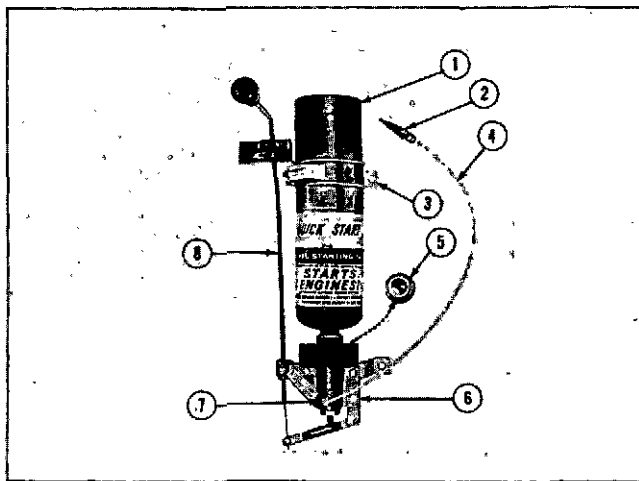

Fig. 10-2-3, V11011. Manual valve with fuel cylinder mounted
The Turner "Quick Start" cold starting aid, approved for optional use on Cummins Engines, has been released based upon starting aid capabilities to -25°F [-31.6°C]. The valve meters and injects 5cc of starting fuel at each actuation. Fig. 10-2-3.
The manually operated valve, Part No. 191019, illustrated in Fig. 10-2-3 includes valve body assembly (6), 90 deg. elbow (7), cap (5), clamp (3) and Nylon tube (4). Fuel cylinder (1), atomizer-fitting (2) and pull control (8) must be ordered separately from parts catalog.